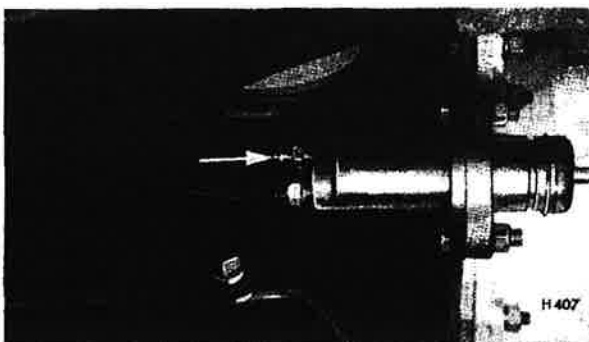

Fig. 85
3. Clean the clutch cylinder nipple (Fig. 85) and attach to it a rubber tube of approx.  $\frac{1}{4}$ " (6 mm.) bore allowing the other end of the tube to hang submerged in a jar containing a quantity of clean hydraulic fluid.